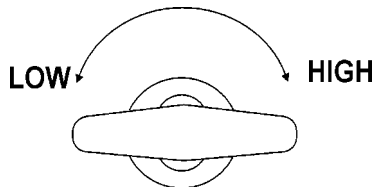

Figure 46. Engine Throttle
14. Pull the throttle handle to increase the speed of the engine (Figure 46).